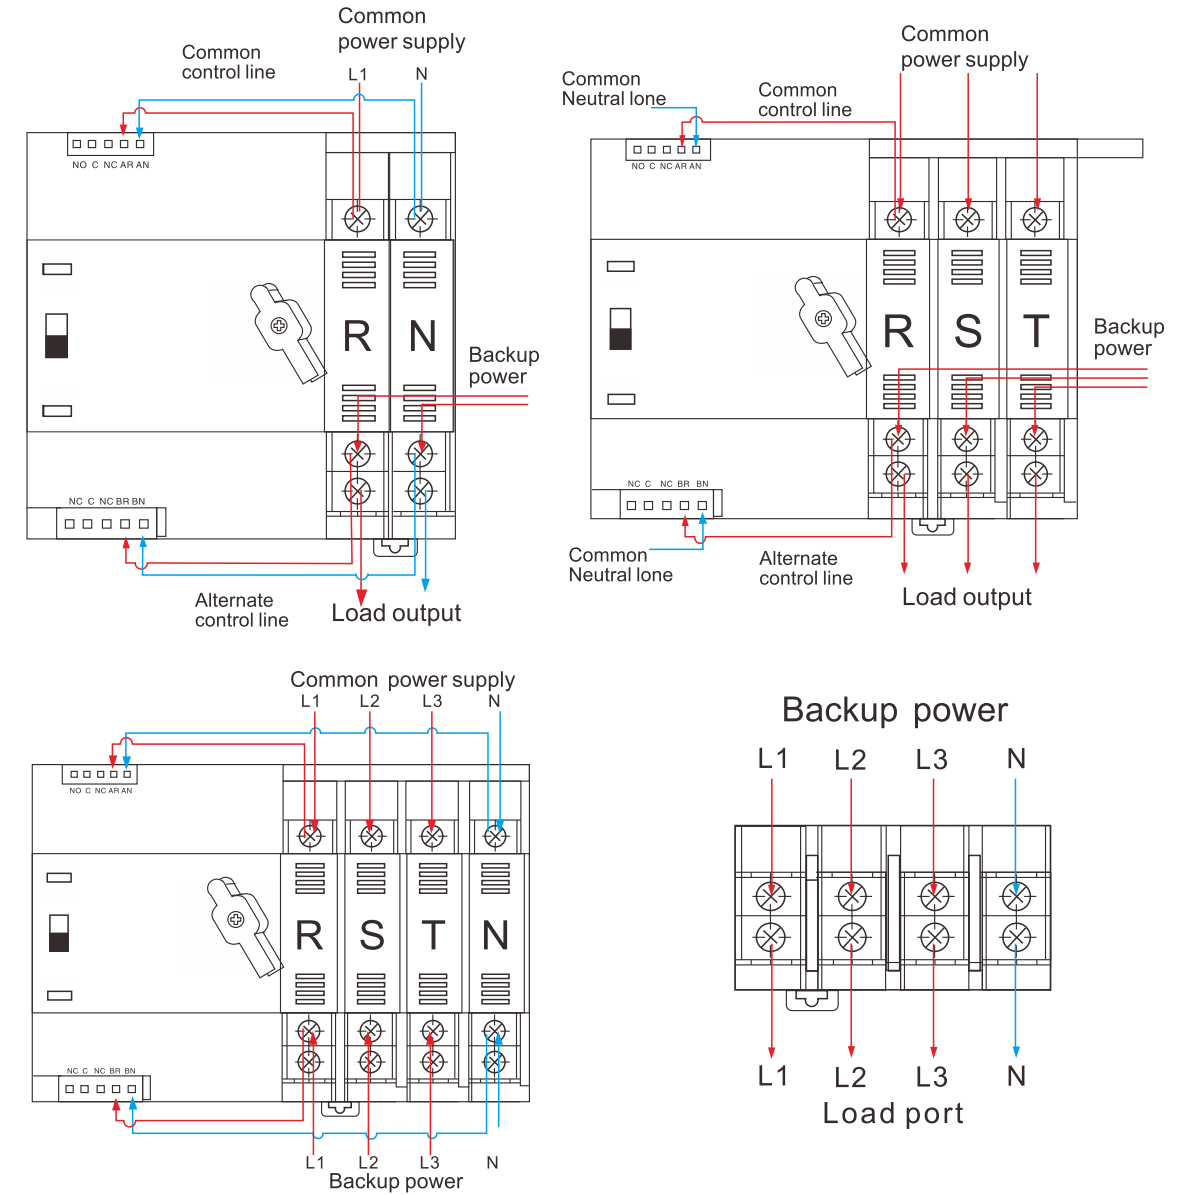

Fig.2 Wiring diagram of controller
3. The nameplate of the product can be seen from the front If you fail to install in the specified direction due to wiring or other reasons, please contact us. The safety distance S1, S2 should not be less than the distance specifed in Figure 2 (More information on side picture).